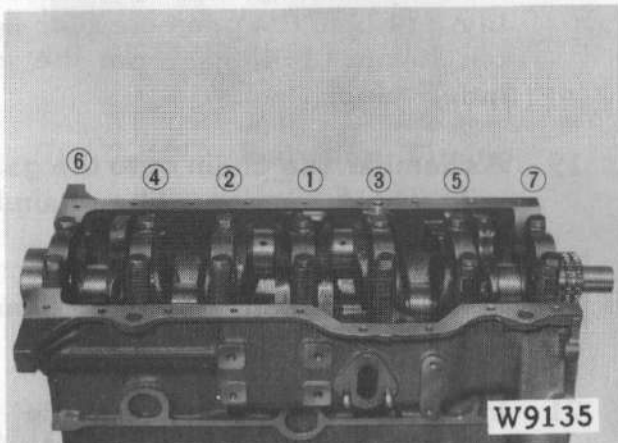

Fig. 2-92 Tightening Sequence
11. Install the crankshaft bearing caps onto the cylinder block adhering the marks and numbers in each cap, then tighten the cap bolts alternately to 9.9 to 10.9 m-kg or 71.3 to 78.5 ft-lb as illustrated sequence in figure 2-92. Always check if the crankshaft rotates smoothly, and the crankshaft thrust clearance is 0.05 to 0.25 mm or 0.002 to 0.010".